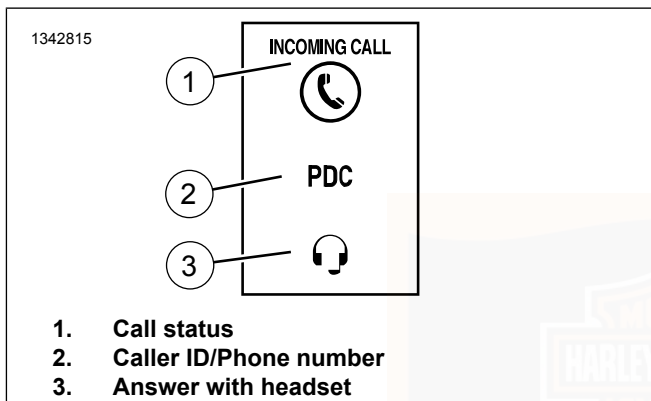

Figure 42. Phone Widget
See Figure 42. The phone widget displays current call status (1), caller ID or phone number (2), and answer with headset icon (3) (If connected to a supported phone).